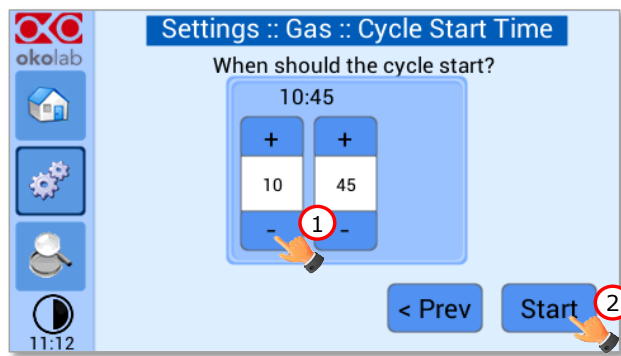

Figure 39. Cycle Start.
5. Schedule the time for the concentration cycle to start (see Figure 39).